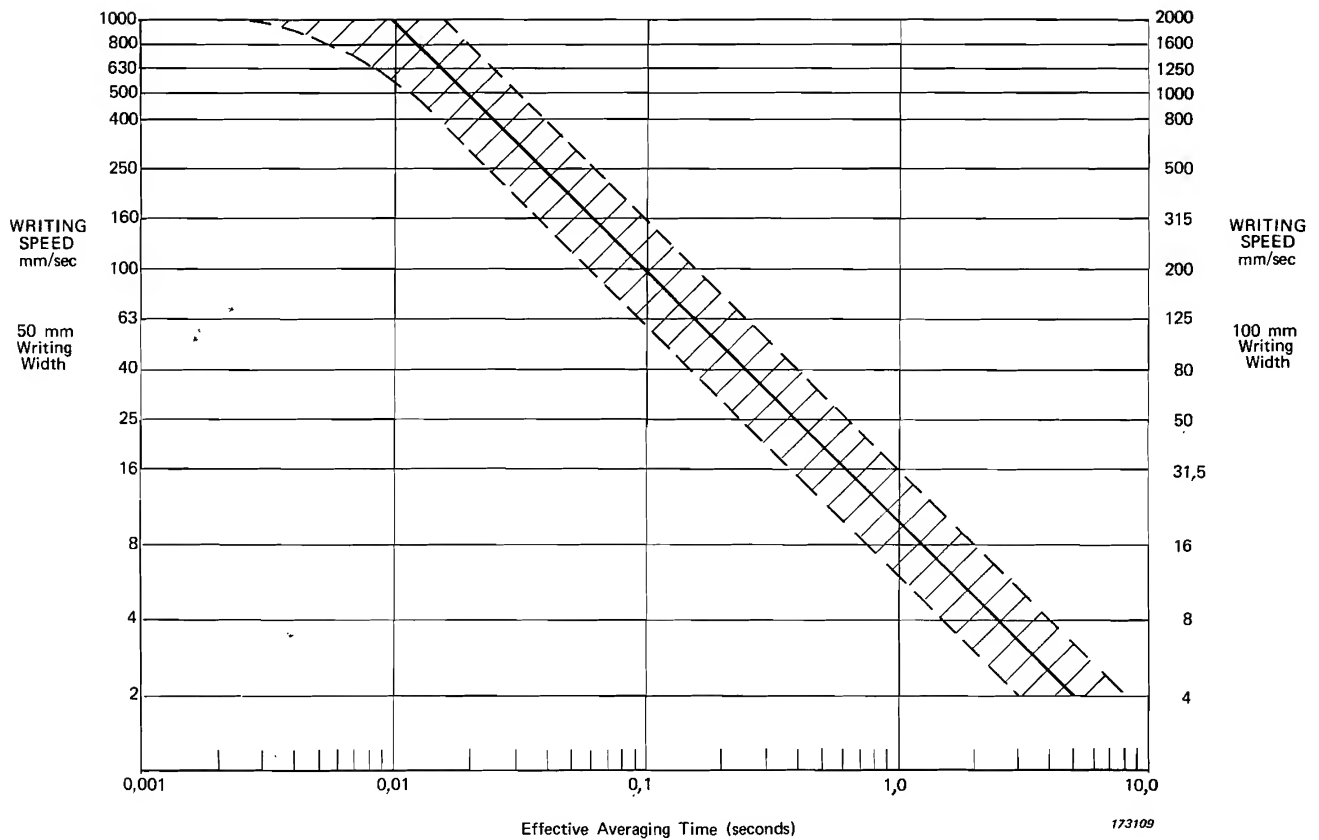

Fig. 6.2. Effective averaging times as a function of writing speed
With AC recording the AC output of the RECORDER socket of the 2606 is used. Rectification and part of the averaging of the signal fluctuations is then performed electronically by the Rectifier Circuit of the Level Recorder with the remaining signal averaging taking place in the Recorder's writing system. The most influential control which affects averaging is the WRITING SPEED selector, but is also to some extent influenced by the setting of the LOWER LIMITING FREQUENCY control. Empirical data suggests that the effective averaging times as a function of WRITING SPEED may be represented by a double logarithmic plot as shown in Fig.6.2. There is, however, some spread in the data owing to LOWER LIMITING FREQUENCY settings as well as signal characteristics (e.g. crest factor, bandwidth etc.), and this is also indicated in Fig.6.2. The left hand limit of this spread is a theoretical limit corresponding with zero pen movement. For normal settings of the 2305 and 2307 Level Recorders and pen movements of 12 to 16 mm peak to peak for 100 mm writing widths (6 to 8 mm for 50 mm writing width), most of the effective averaging times will be in the shaded area of Fig.6.2. Fig.6.2 may be used with all Range Potentiometers.
4. For AC recording averaging of small signal fluctuations (between 12 and 16 mm for 100 mm paper widths) is controlled by the WRITING SPEED selector of the 2305 or 2307 Level Recorder. To minimize ripple on the recording set the WRITING SPEED selector to 100 mm/s (large figures) for recording signals with components down to 10 Hz or to 31,5 mm/s for recording of signals with components down to 2 Hz. The effective averaging times obtained with these WRITING SPEED settings approximate the 100 ms averaging time of the "RMS Fast" METER FUNCTION mode of the 2606 and the 500 ms averaging time of the "RMS Slow" METER FUNCTION. The effective averaging times available using other settings of the WRITING SPEED CONTROL are given in Fig.6.2.